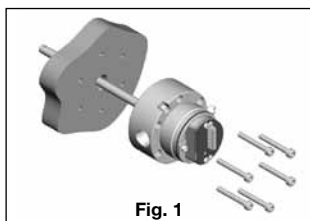

Fig. 1
Step 2: Install transducer into position. Secure transducer using six M6x45 A2, stainless steel, socket head cap screws (supplied with transducer), or with 1/4"-20 x 1-3/4", stainless steel socket head cap screws. Tighten screws to 3.5 Nm (2.6 ft.-lbs.) torque. (Fig. 1)